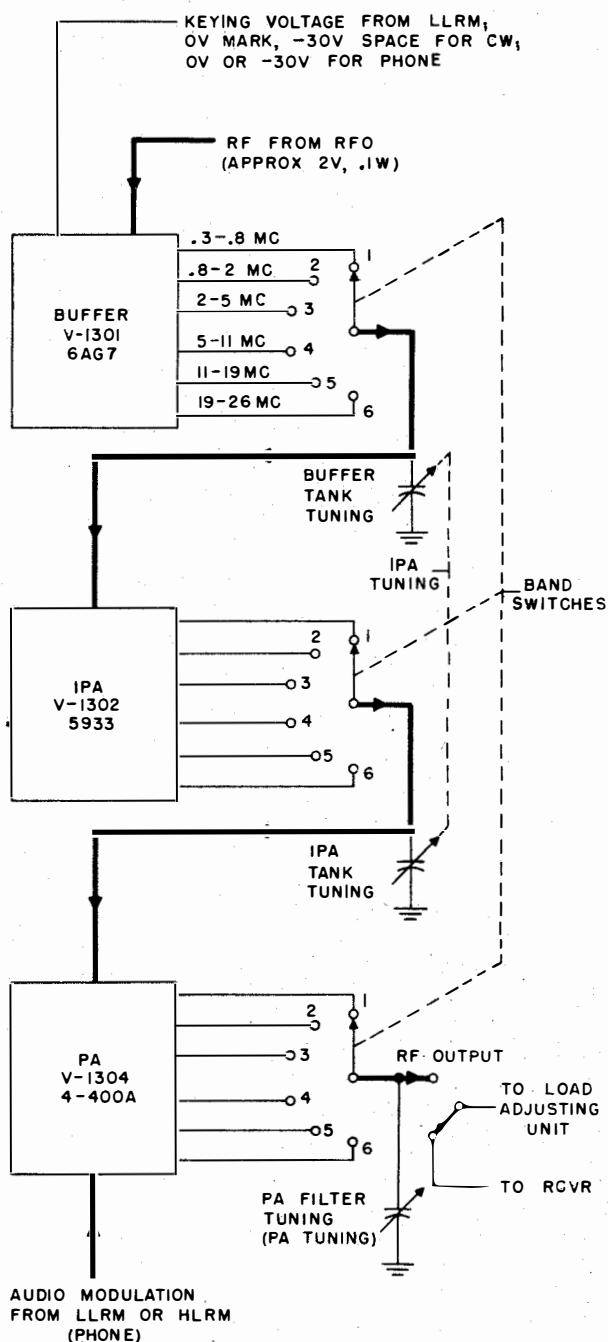

Figure 7-67. Radio Frequency Amplifier AM-1008/SRT (RFA), Block Diagram
a. **TROUBLE SHOOTING.**—When a fault is localized to the RFA, visual indications will aid in locating the faulty circuit. The RFA block diagram is represented in figure 7-67. These indications will vary with the mode of transmission and the power level of the output. Both the **VOLTMETER** and **ANT. CURRENT** meters may be used to check the r-f input and output of the RFA, respectively. **METER SELECTOR** switch (J) should be in the **RF IN (5 V)** position for checking the input to the RFA, with switch (A) to **INT.** and control (Z) clockwise.
Figures 7-67 through 7-77 show the location of all the components in the RFA.